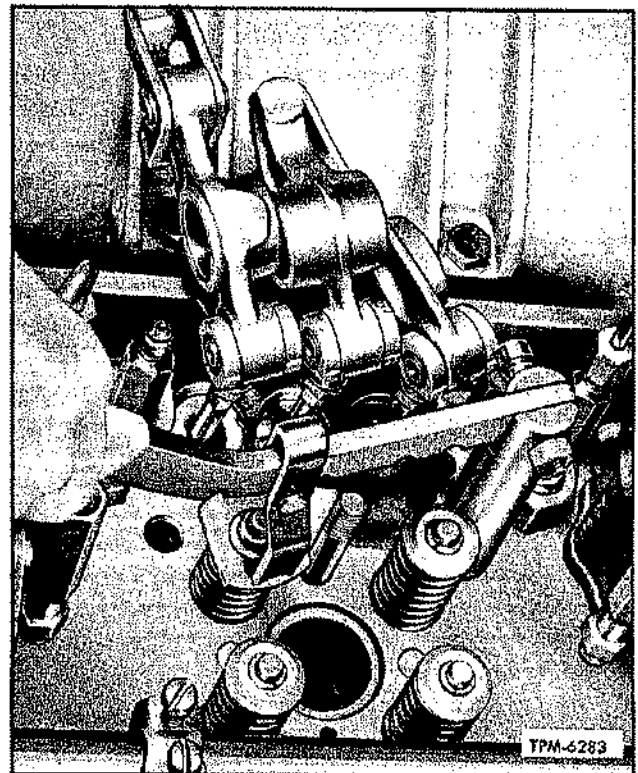

Figure 95—Compressing Valve Spring with Tool to Remove Valve Lock (4 Valve Head)
2. Thread adapter end of compressor tool (J-7455) into rocker shaft bolt hole in cylinder head (fig. 95).
3. Place compressor foot on top of the valve spring cap (fig. 95).